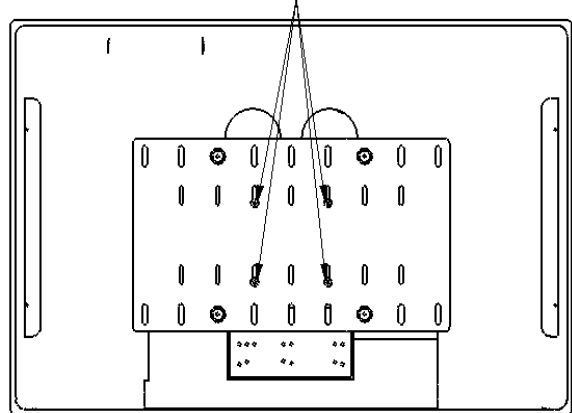

Figure 4. Display with 100mm x 100mm Hole Pattern
2. Attach the MSB-V (10) using the hole-pattern on the back of your display as shown in Figure 4.